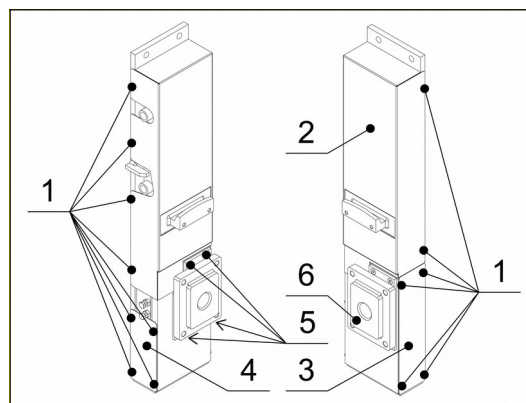

Fig. 65
1. Remove the bolts with washers (Fig. 65, No. 1) and remove the covers (Fig. 65, No. 2), (Fig. 65, No. 3) and (Fig. 65, No. 4).
2. Remove the bolts (Fig. 65, No. 5) and remove the hinge clamping plate (Fig. 65, No. 6).
11. Replace the hinge clamping plate (Fig. 65, No. 6) and secure it thoroughly with the bolts (Fig. 65, No. 5).
12. Replace the covers (Fig. 65, No. 2), (Fig. 65, No. 3) and (Fig. 65, No. 4) and secure them thoroughly with the washers (Fig. 65, No. 1).